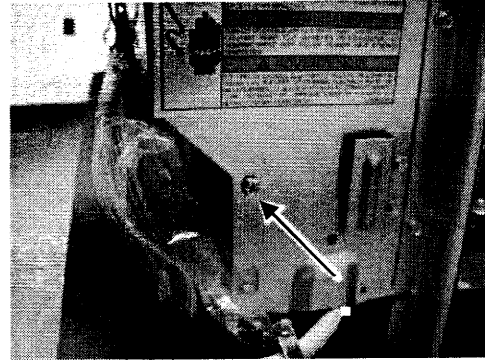

Figure 2
4. Remove the 1/4 inch screw from the right side of the control panel and the control panel will hinge forward, Figure 2.